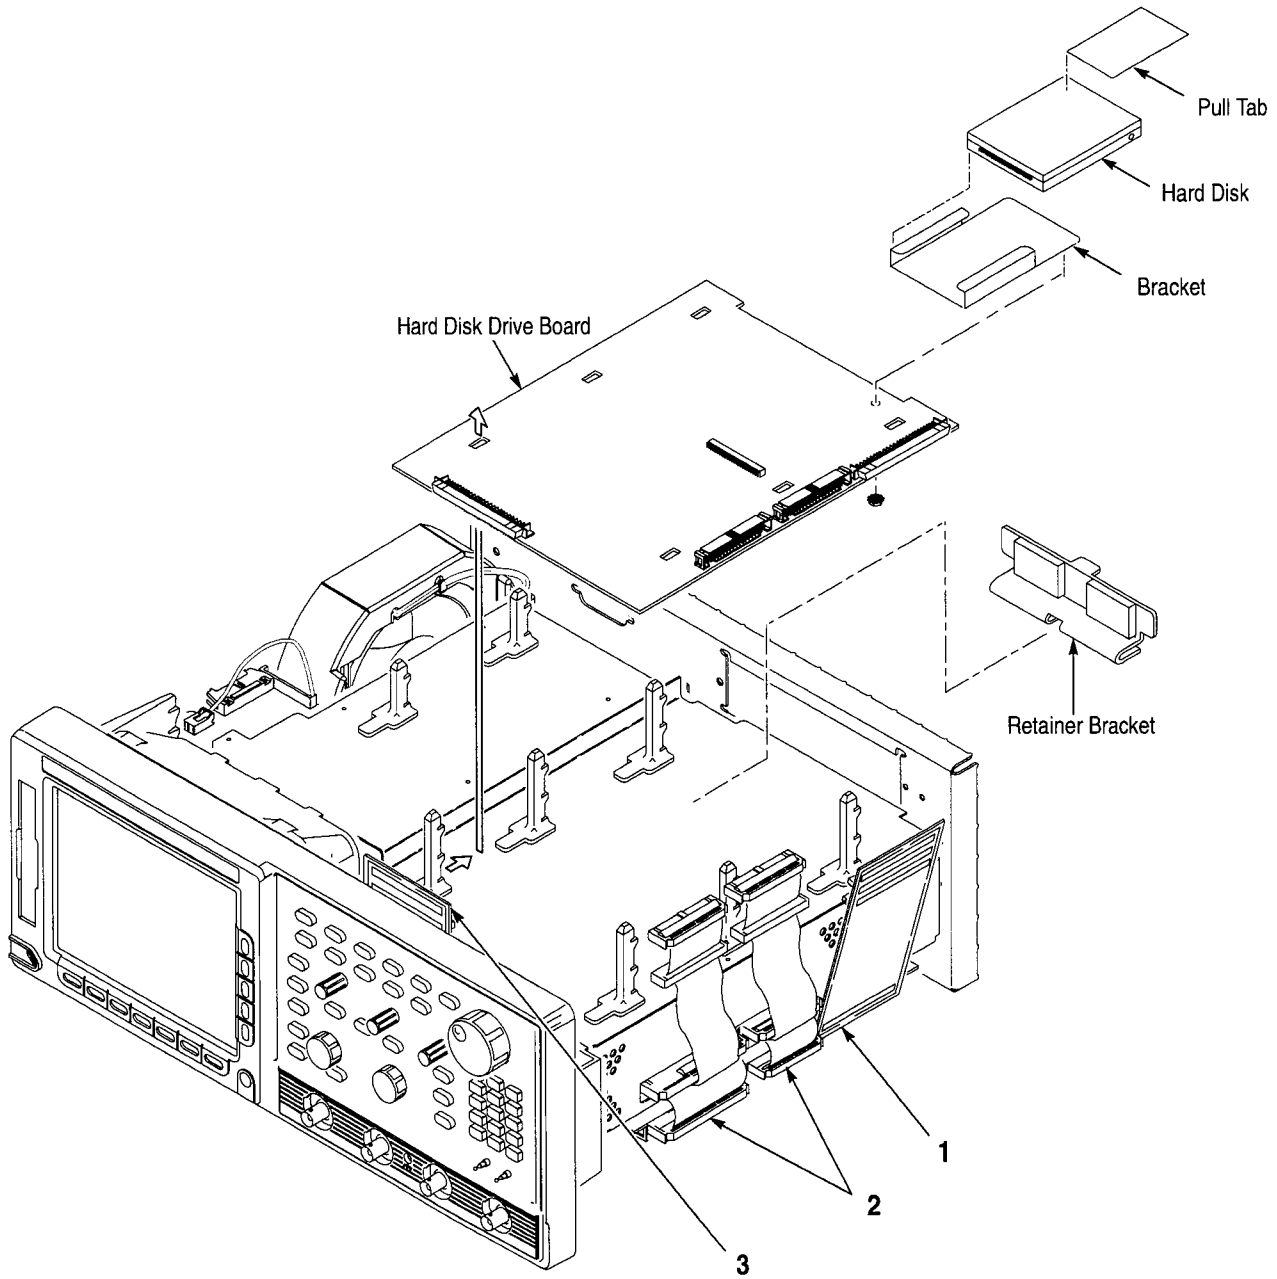

Figure 1: Hard disk removal
4. Install the hard disk supplied with this upgrade (use Figure 1 as a guide).